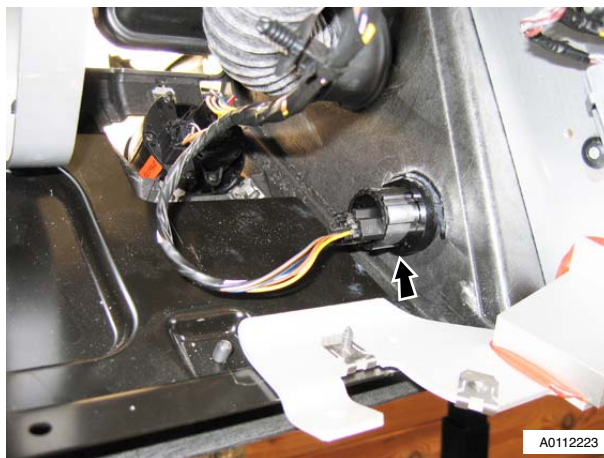

Figure 4
7. Disconnect interior guard switch (see Figure 4).